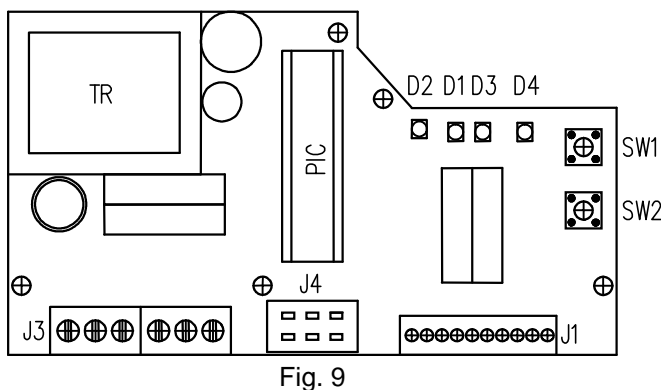

Fig. 9
4.7 Adjustment of position controller (Fig. 9)
Laying of adjusters and signalling elements on the board of the REGADA controller is shown on Fig.9: